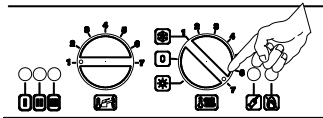

Figure 15.8
- Turn the boiler ON positioning the function selector B in the position shown in figure 15.8 and ensure that the room thermostat is set to “heat demand”.
- Watch the gauge and check to see if the ignition pressure registered corresponds to the values given in the Technical Data. Turn off the boiler and reignite it by turning the function selector B to the OFF position and then back to that indicated in figure 15.8